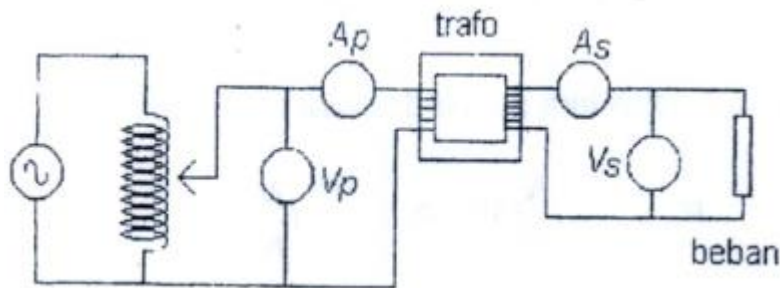

Figure 2. Transformer trial circuit scheme
1. Make a sequence like figure 2.